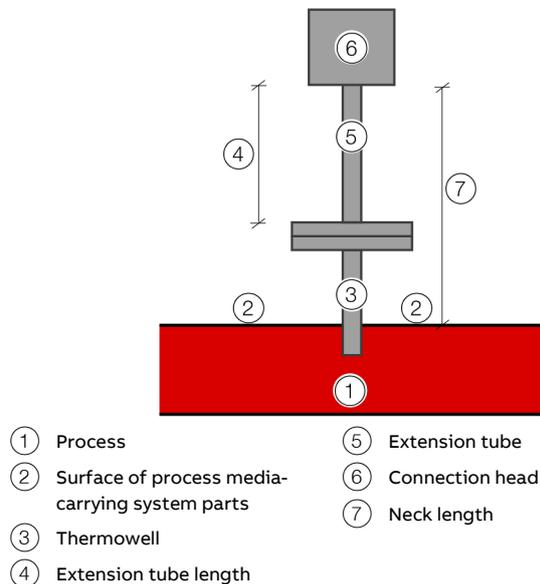

Figure 9: Definition of the neck length
- (A) Temperature rise in connection head °C (°F)
- (B) Neck length mm (in)
- Surface temperature of process media-carrying system parts °C (°F), see Figure 9 on page 18**
- ① 250 (482)
- ② 450 (842)
- ③ 620 (1148)
- ④ 800 (1472)